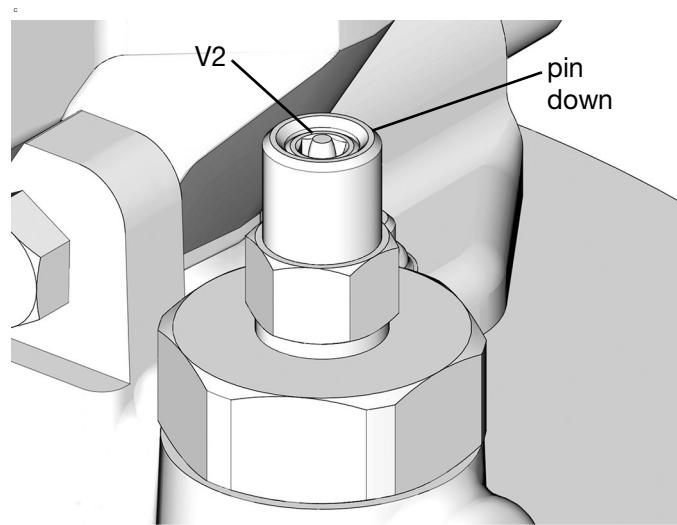

FIG. 18
2. Verify the Auto-Fill Shut Off pin (V2) is down, indicating it is reset (FIG. 18).